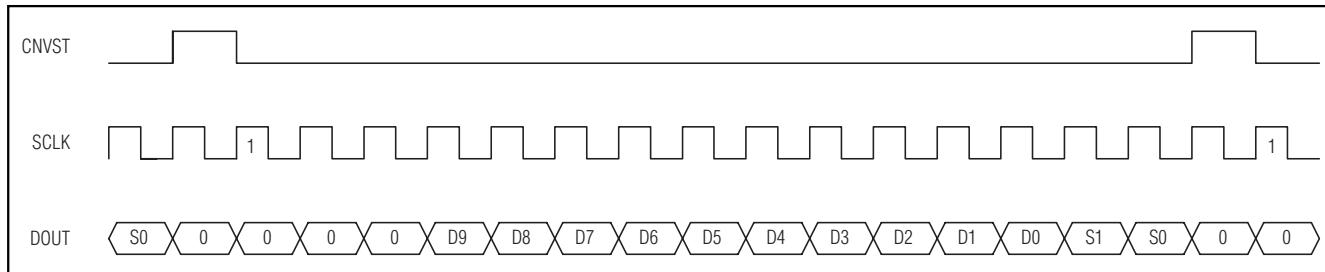

Figure 17. DSP Interface—Continuous Conversion
The MAX1076/MAX1078 can also be connected to the TMS320C54_ by using the data transmit (DX) pin to drive CNVST and the CLKR generated internally to drive SCLK. A pullup resistor is required on the CNVST signal to keep it high when DX goes high impedance and 0001hex should be written to the DXR continuously for continuous conversions. The power-down modes may be entered by writing 00FFhex to the DXR (see Figures 17 and 18).
can be selected to eliminate the need for writing to the transmit-data register more than once. For single conversions, idle CNVST high and pulse it low for the entire conversion. The ADSP21₁₁ STCTL and SRCTL registers should be configured for late framing (LAFR = 1) and for an active-low frame (LTFS = 1, LRFS = 1) signal. This is also the best way to enter the power-down modes by setting the word length to 8 bits (SLEN = 1001). Connect the V_L pin to the ADSP21₁₁ supply voltage when the MAX1076/MAX1078 are operating with a supply voltage higher than the DSP supply voltage (see Figures 17 and 18).